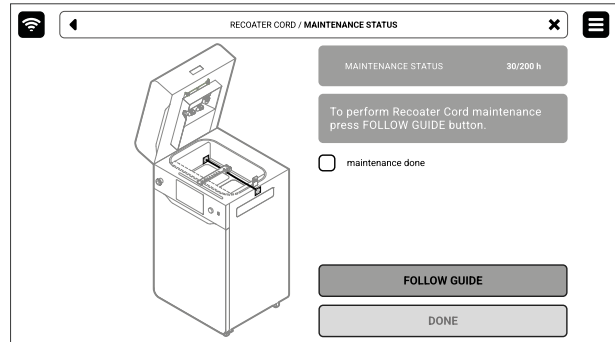

Fig. 12.10 The screen of the maintenance of the Recoater cord.
3. In this case, mark **MAINTENANCE DONE** once you have completed the procedure, and then the **DONE** button. The timer will reset to zero (fig. 12.10).